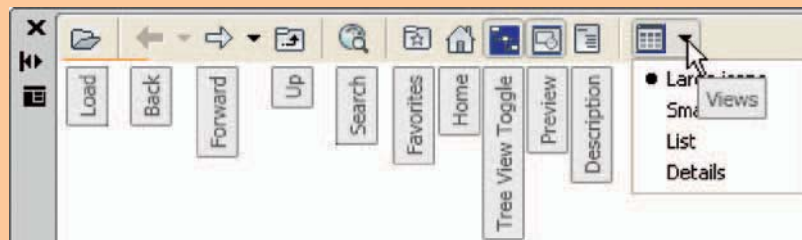

Fig. 9.11 The icons at the top of the DesignCenter palette
2. *Clicks* on one of the three icons at the top-right corner of the palette (Fig. 9.11) have the following results: